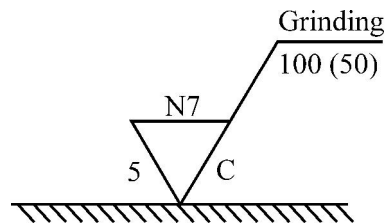

Fig. No. 1
- (f) State the meaning of symbol shown in the Fig. No. 1.